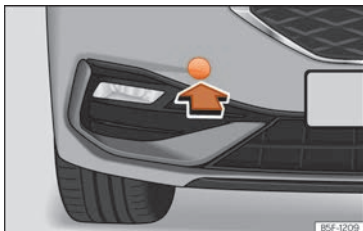

Fig. 211 Front bumper on right: remove the lid.
The housing of the removable towline anchorage is on the right side of the front bumper underneath a cover >>> Fig. 211.
- Remove the cover by pressing down on its base and leave it hanging from the vehicle >>> Fig. 211.